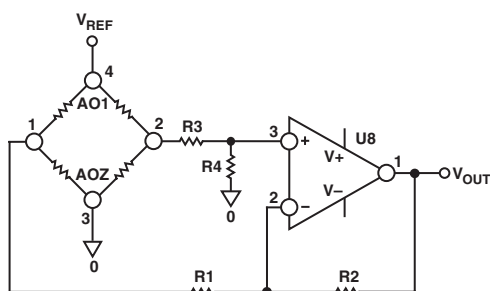
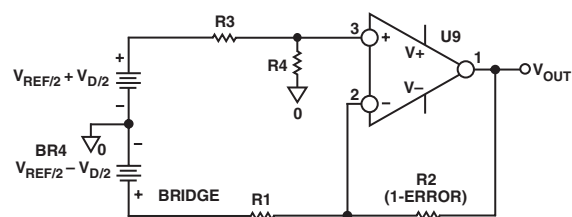
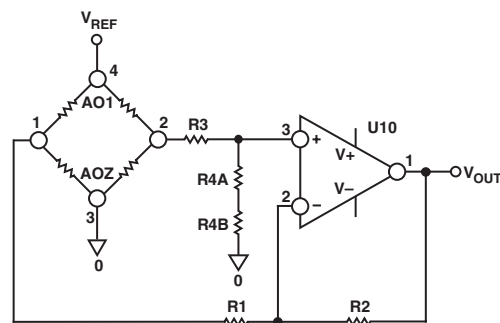

Figure 1.
Figure 2.
Figure 6.
A typical difference amplifier using a single amplifier connected to a sensor bridge is shown in Figure 1.
By applying the superposition principle, it can be shown that the output is a function of the difference of the two inputs. The transfer function of the circuit in Figure 1 is:
As stated above, one of the shortcomings of the circuit in Figure 1 is the poor CMRR, which is caused by mismatch of the resistors. In order to investigate this, the circuit is redrawn for clarity in Figure 2.
When the resistor error is not zero, as in Figure 2, then the CMRR of the circuit can be written as:
c. Another way that the CMRR of the circuit in Figure 1 can be enhanced is by using a mechanical trim potentiometer as shown in Figure 6.